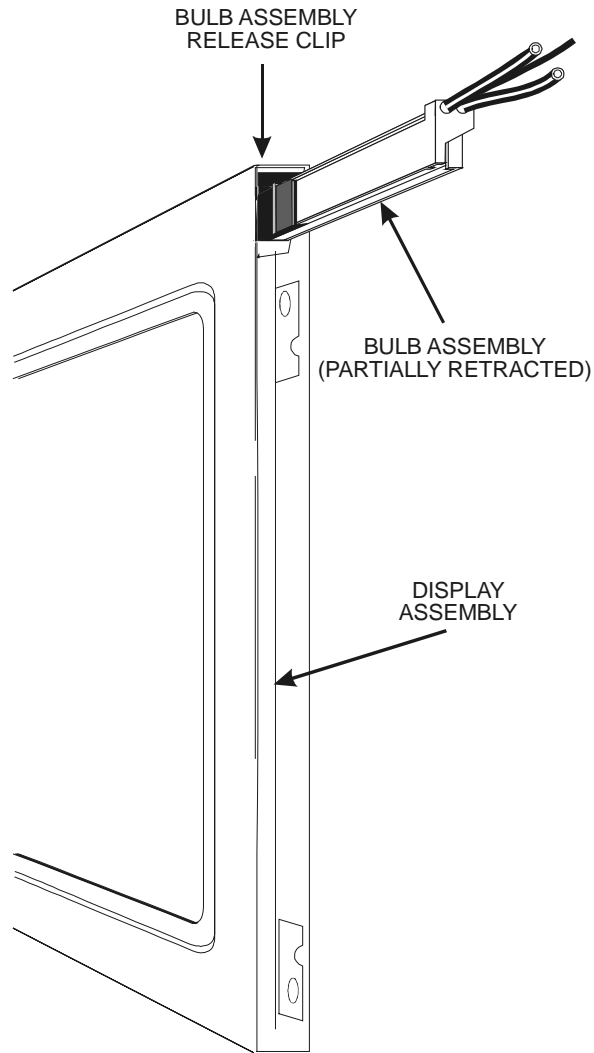

Figure D-4. Model #LQ12S41
12. Referring to Figure D-4, push in the tab at the end of the display with a flat-bladed screwdriver, and slide the bulb assembly out.